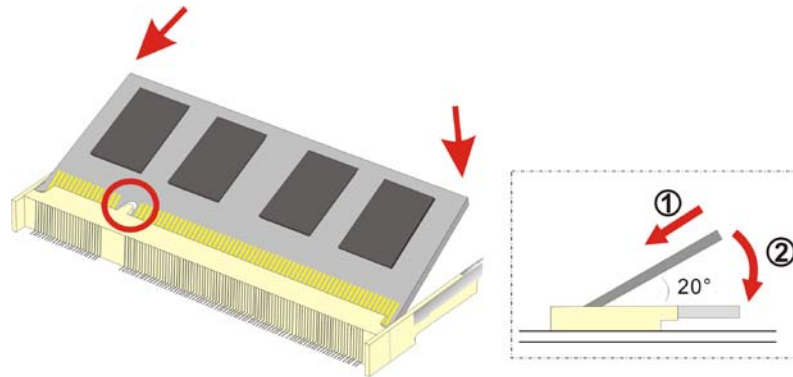

Figure 6-4: DDR SO-DIMM Module Installation
- Step 7:** Install the new DDR3 memory module by pushing it into the socket at an angle (**Figure 6-4**).
- Step 8:** Gently pull the spring retainer clips of the SO-DIMM socket out and push the rear of the DDR memory module down (**Figure 6-4**).